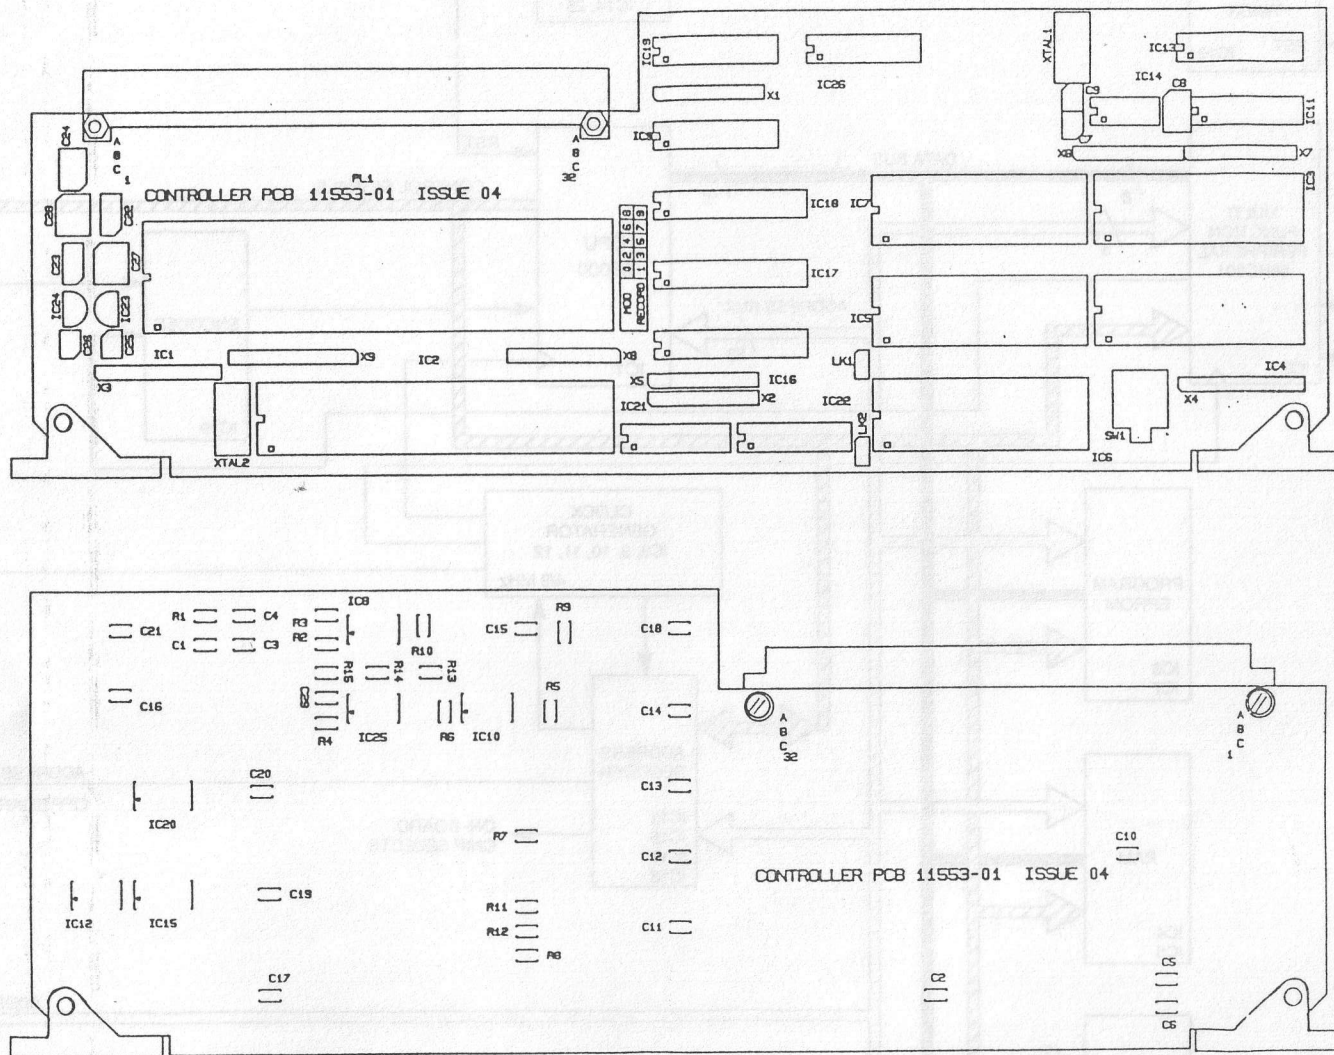

Figure 2 - Controller Board Assembly Component Layout
- Figure 2 LCD Serial Data Timing Diagram